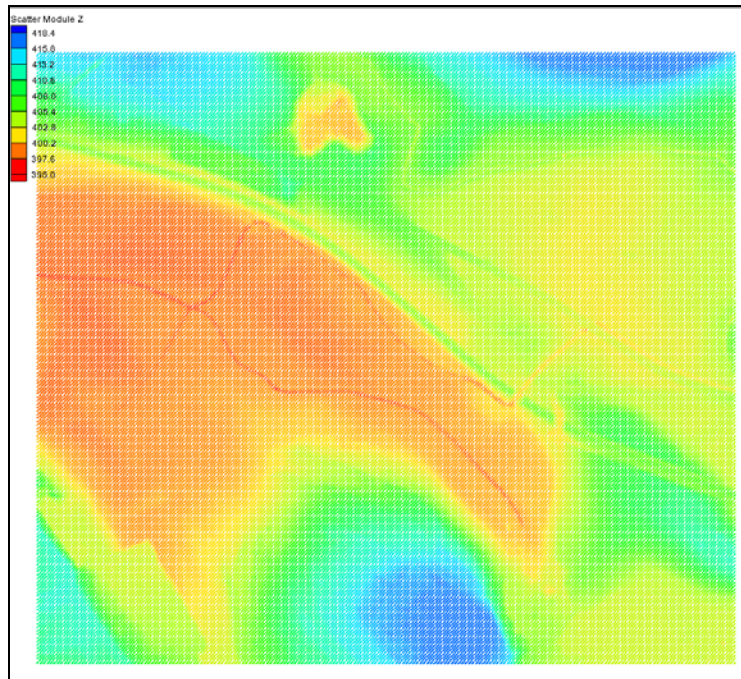

Figure 15 Scatter set for raster data
5. Click the *Finish* button. SMS reads in the raster data and converts each point to a scattered vertex. This may take a few minutes due to the fact that there are over 561000 points in this data set. (Figure 15)
6. Repeat steps 1-4 to read in the “Raster-in.xyz” file again but this time with filtering. We will compare the two resulting scatter sets to understand the differences made by filtering. The data will be loaded as “Raster-in (2)”
9. Click the *Finish* button. SMS will create the second scattered data set. Its display will appear almost identical to the other one. (Figure 15)